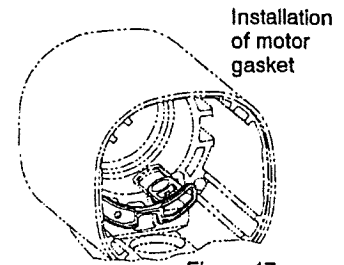

Figure 17
1. Install the Motor Gasket in the Housing making sure that the grooves in the tab of the Motor Gasket fit around ridge in the Housing. See Figure 17.